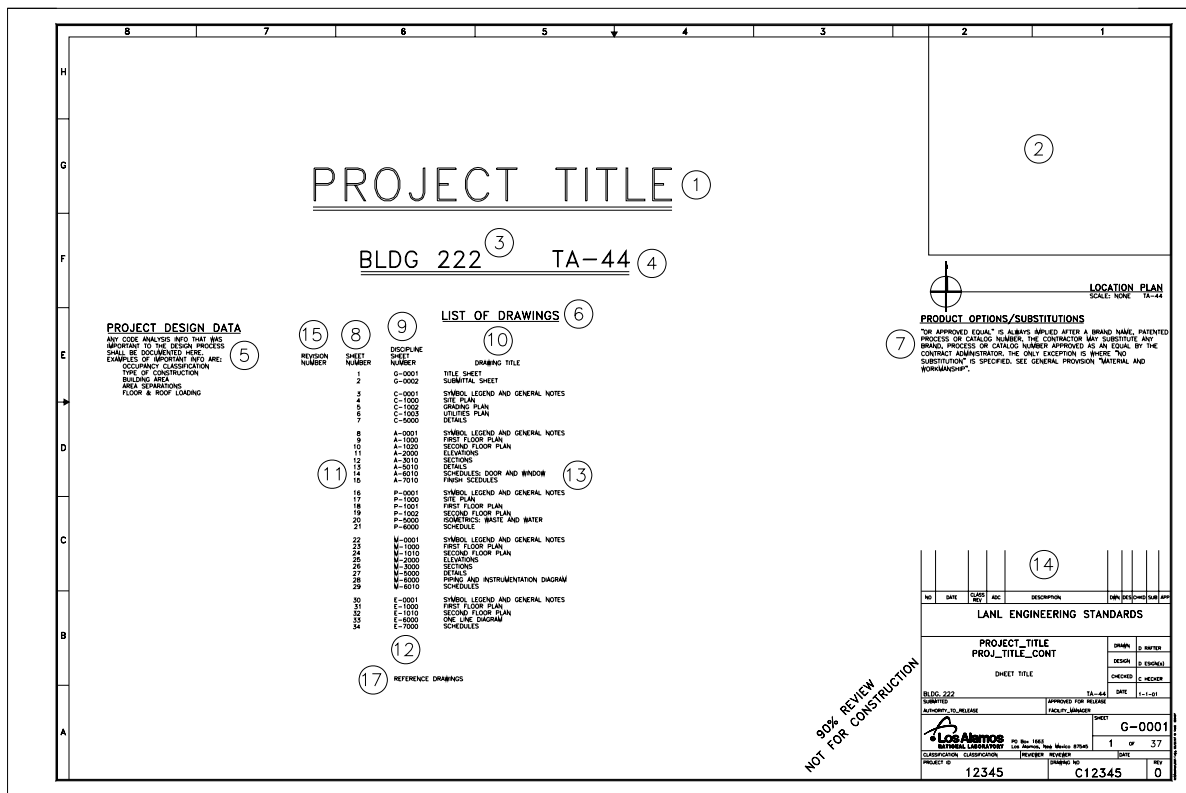
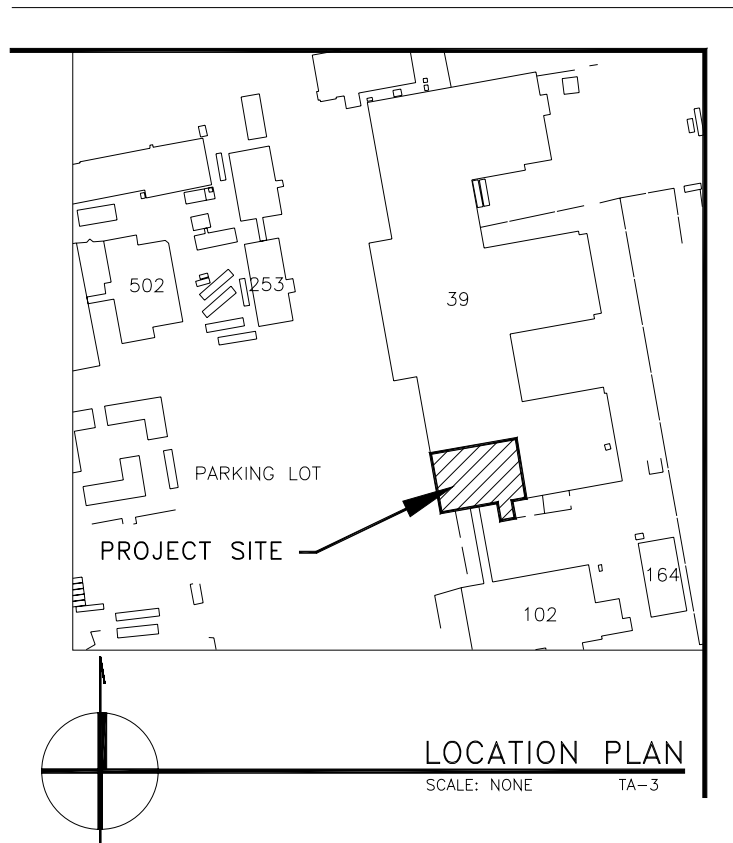

Figure 203-1
Figure 203-2
| 2    | Location Plan                              | No scale  | A plan that illustrates the location of the project - see Figure 203-1.   |
- B. Locate this plan on the Title Sheet in the upper right hand corner of the sheet (Fig. 203-1), as illustrated in Figure 203-2. The plan and all text shall not cover more than a 7.5" x 7.5" square.